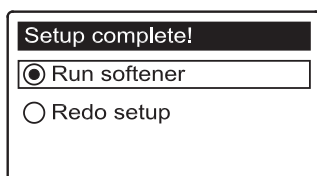

FIG. 22
26. Press the SELECT (O) button. The screen will show "Setup complete!" (See Figure 22).
27. If, at this point, you want to go back and make changes, press the DOWN (▼) button to scroll to **Redo setup**, then press the SELECT (O) button twice to repeat the "wizard" screens.
28. If no changes are desired, make sure **Run softener** has a black dot next to it (See Figure 22) and press the SELECT (O) button. The unit begins normal operation, described on Page 23.